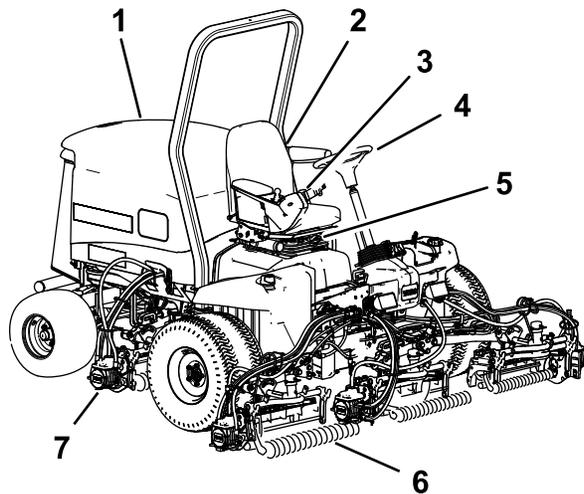

**Figure 33**
1. Use rubbing alcohol and a clean rag to clean the floor bracket area next to the serial plate, and allow the bracket to dry (Figure 33).